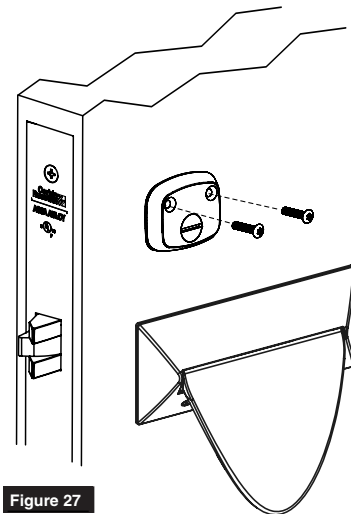

Figure 27
1. Install turn-piece loosely using two (2) turn-piece mounting screws. (Figure 27)